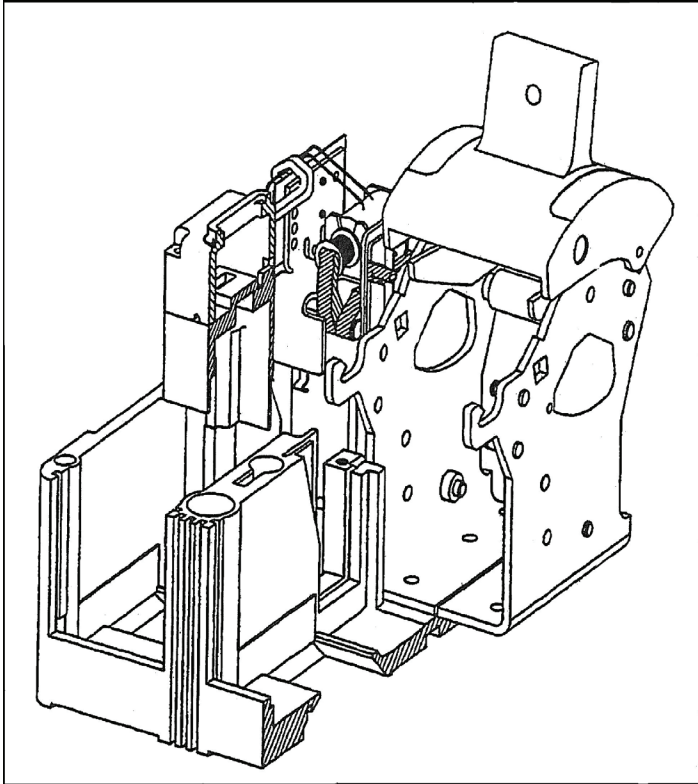

Fig. 2-3. UVR Installation
Note: To install UVR, circuit breaker operating mechanism must be in tripped position and the handle is pushed to "ON" position. (Fig. 2-3)
2-7. Install UVR as described in following steps (see Fig. 2-3):
b. Push circuit breaker handle towards the ON position and hold while sliding UVR plug-in module into slots in trip unit (Fig. 2-3) until retaining clip snaps into trip unit. For terminal block assemblies, slide terminal block into mounting slot on side of base as plug-in module is being positioned.